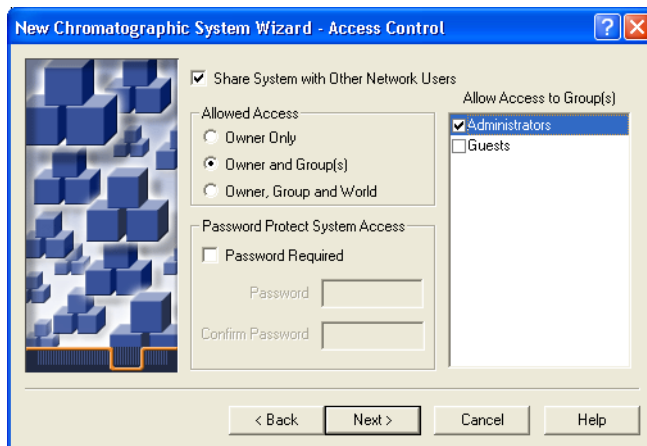

Figure 3-8 New Chromatographic System Wizard—Access Control Page
5. Click **Next**. The Access Control page appears (Figure 3-8).